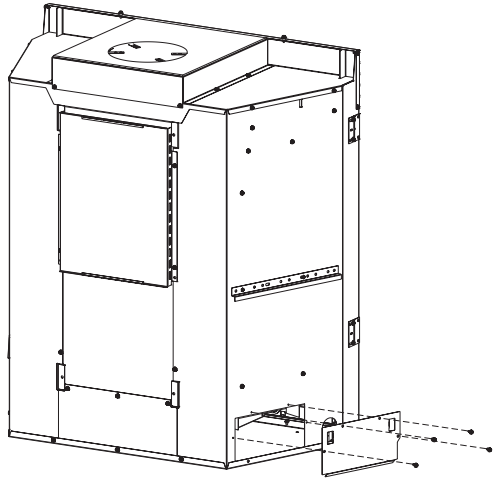

Figure 1
1. With power turned off, remove plate and four screws from left panel. **See Figure 1.**